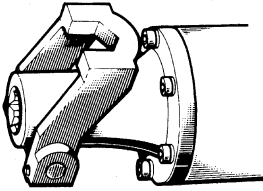

Fig. 2
- (1) With the retainer directed backward, insert the accessory shank portion into the hole on the front cover. (Fig. 2)
3. Inspecting the retainer (Fig.2 and 3)